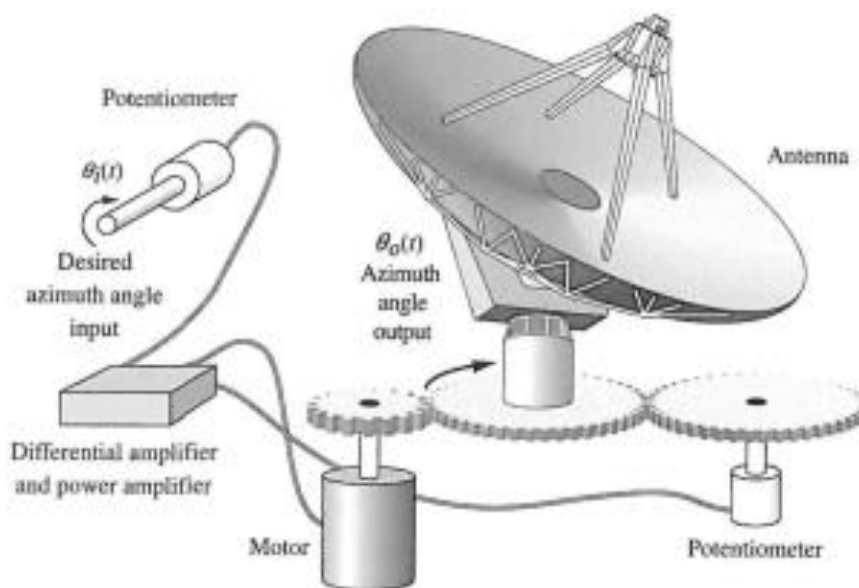

Figure 2a. Antenna Azimuth Control System (adapted from Nise, 2000)
3. Figure 2a shows a system for controlling the azimuth angle of a large antenna aerial. The block diagram for the system is given in figure 2b. The input signal is provided by the input potentiometer, which develops 0.05 Volts per degree change in input  $\theta_i$ . The angular position of the aerial is measured by a similar potentiometer that also generates 0.05 Volts per degree change in the aerial position  $\theta_o$ . The resulting differential error voltage is fed into the power amplifier which delivers a current to the motor with a gain of 200 Amps/Volt. The servo motor develops a torque of 0.5N/Amp and the moment of inertia of the rotating parts of the motor is 0.2 kg m2. The gear ratio of the reduction gear between the motor and the antenna turntable is 10:1 and the moment of inertia of the aerial assembly about the turntable axis is 10 kg m2.